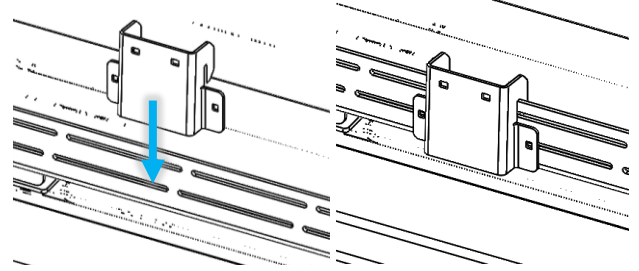

Figure 3: Installation of Rear Mounting Brackets
2. Hook one of the awning brackets (351182) over the top of the side rail and position it near the rear of the rack. The exact position along the side rail should be in accordance with the awning manufacturer's spacing recommendation (Figure 3).